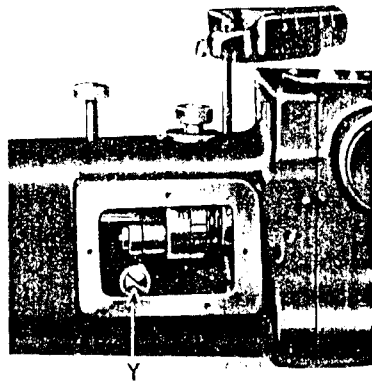

Fig. 19
If the distance between the vibrating presser bar and the lifting presser bar is more or less than $\frac{1}{8}$ inch, see that the feeding mechanism is set so that there is no feeding movement of the needle bar, then remove the cover at the front of the machine, loosen the clamp screw (Y, Fig. 19) which holds the needle bar rock frame rock shaft and move the needle bar frame forward or backward to the required distance. A piece of metal of the correct width may be used to determine the correct distance. When the adjustment has been made, securely tighten the clamp screw (Y), replace the cover plate and restore the feeding mechanism to its original position.
Remove the face plate and needle bar rock frame, then loosen the clamp screw at (Y, Fig. 19) and draw out the rock shaft and remove the sleeve.